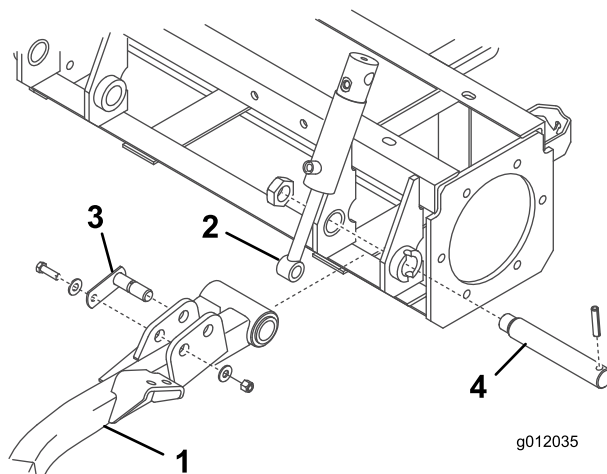

Figure 8
13. Remove fasteners securing cylinder pin to lift arm. Remove cylinder pin and disconnect cylinder end from lift arm (Figure 8).
14. Remove nut securing lift arm pin to frame (Figure 8).